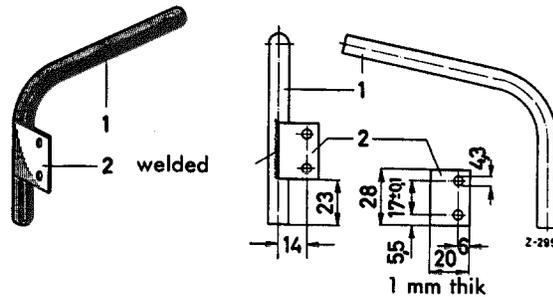

Fig. 01-3/15
| <p>Bad idle adjustment</p> <p>Idle fuel jets size 55 not yet installed</p> <p>Mixing tube no. 43 of Stage 1 not yet installed in die-cast carburetors and fuel line to accelerating pump not yet calibrated</p> | <p>Check idle adjustment</p> <p>Make sure that in the idle position the throttle valves of Stage 2 are completely closed (see Job No. 01-3, Section K)</p> <p>Replace in both Stages idle fuel jets size 50 by jets size 55 (possible also on sand-cast carburetors)</p> <p>Idle fuel jets size 55 are standard equipment as from Engine End No. 65 01365</p> <p>In order to improve speed build-up, mixing tube no. 42 was replaced by mixing tube no. 43 of Stage 1 in die-cast carburetors as from Engine End No. 55 01823. At the same time the fuel line to the accelerating pump was calibrated to 0.5 mm.</p> <p>On engines from Engine End No. 55 00709 (where die-cast carburetors were first installed) up to Engine End No. 55 01822 mixing tube no. 43, Part No. 000 071 09 49, can be subsequently installed in Stage 1.</p> <p>This mixing tube no. 43 should only be installed subsequently together with the calibrated sleeve Part No. 000 071 03 40. In order to subsequently calibrate the fuel line to the accelerating pump, the calibrated sleeve (2) is installed on the ball valve (1) in the float chamber and is carefully pressed into position. Care should be taken to ensure that the ball valve pressed into the carburetor housing is not displaced and that the sleeve is not damaged. If the sleeve should be too tight, the internal diameter should be modified accordingly (Fig. 01-3/14).</p>  <p style="text-align: center;">Fig. 01-3/14</p> <p>1 Ball valve for fuel admission 2 Calibrated sleeve</p> |
The distance between the lower end of the pipe and the drain funnel must be appr. 10 mm. Make sure that this distance is maintained. Instructions for fastening and arranging the pipe apply to both die-cast and sand-cast carburetors. On recent cars the pipe is no longer fastened to the air scoop bracket by a pipe clip, but by a retaining plate welded to the pipe. This new retaining plate can also be subsequently welded to the pipe (Fig. 01-3/15).